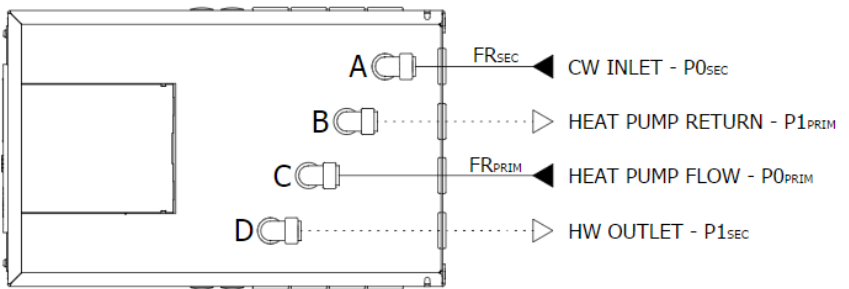

Figure 6.3: *Pressure loss at inlet & outlet of the Heat Battery*
The primary circuit of the heat battery is connected to the heat pump flow and return as shown schematically in (Figure 6.3). The primary circuit design flow rate will depend upon the thermal rating of the heat pump and the design temperature difference. For a typical system, the primary flow rates are given in (Table 9), Primary flow rate in the heat battery charging circuit should be set to give around 7°C temperature difference to minimise flow rates.
Note: The mains cold water inlet connects to port A; Hot water outlet connects to port D. Meanwhile the LTHP flow pipe connects to Port C and the LTHP return pipe connects to Port B (Figure 6.3).
- Mains cold water supply should be connected to Heat Battery connection 'A'. The hot water outlet should be connected to 'D'. Heat Pump Flow should be connected to Heat Battery connection 'C' and Heat Pump Return should be connected to Heat Battery connection 'B'. (see Figures 6.3, 12.1 and 13.1).